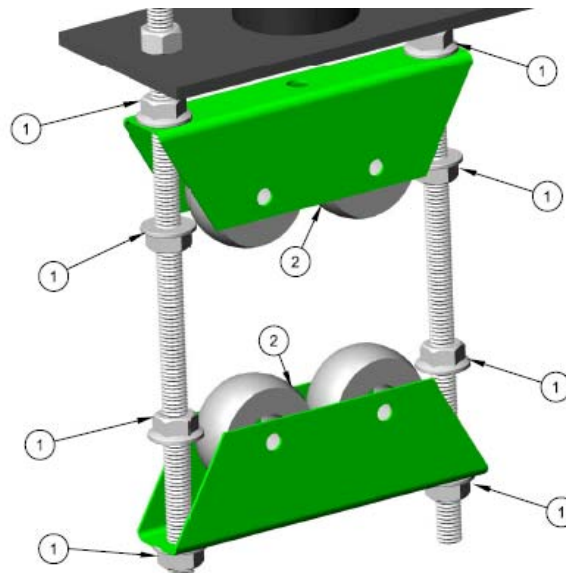

Figure 3. Carrier installation (double carrier shown).
- Referring to figure 3, a 1/2"-13 Whiz lock nut (item 1) should be threaded onto each threaded rod and spun towards the carrier mount a sufficient distance to allow the carrier (item 2) to be installed and a second nut (item 1) threaded onto each rod to retain the carrier. If a double carrier is indicated as being used on the production drawings, then the process must be repeated to complete the installation. **Note that a single carrier will be installed the same as the lower carrier (item 2) shown in figure 3. Also, note that in either case enough space must be left above the lower carrier to allow a 2-3/8" diameter pipe to slide in.**